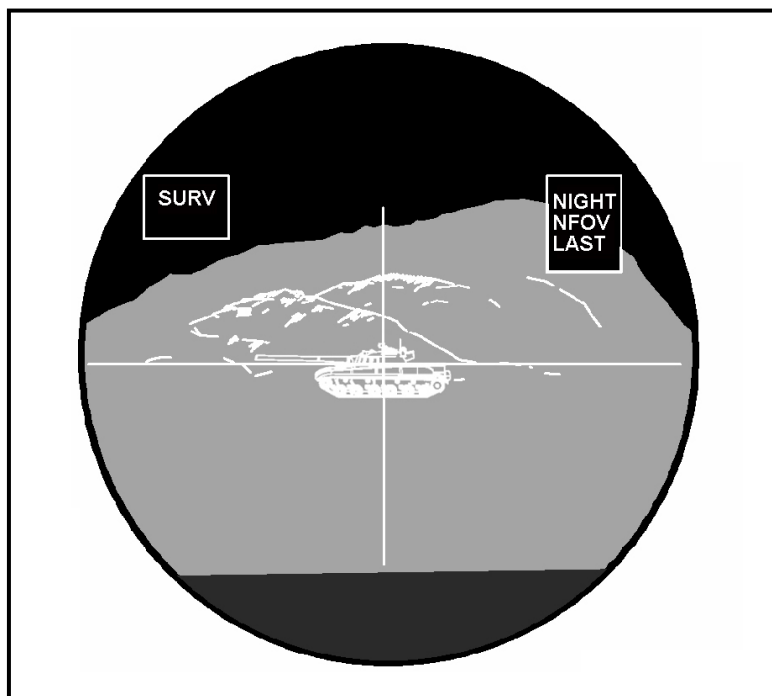

Figure 3-7. NVS NFOV selected.
- (1) If the target cannot be acquired in the sight, he announces, "Lost." He presses SGT SEL switch to activate the NVS WFOV and scans the sector of fire for targets. After detecting a target, he presses the FOV switch to select NFOV (Figure 3-7).
- (2) When the target has been acquired, he identifies it as friendly or enemy.
- (3) If the target cannot be identified, he announces, "Cannot identify."
- (4) If the target is identified as enemy, he proceeds with a manual or tracker engagement.